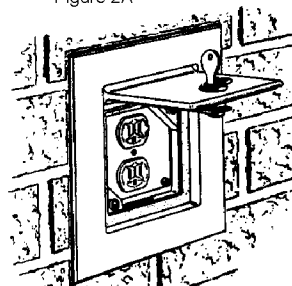

Figure 3
3. Apply caulking compound to back of cover to provide weatherproof seal. Fasten Cover to Adapter with two 8-32 x 1" truss head screws provided. Elongated slots in cover allow for alignment (See Figure 3).